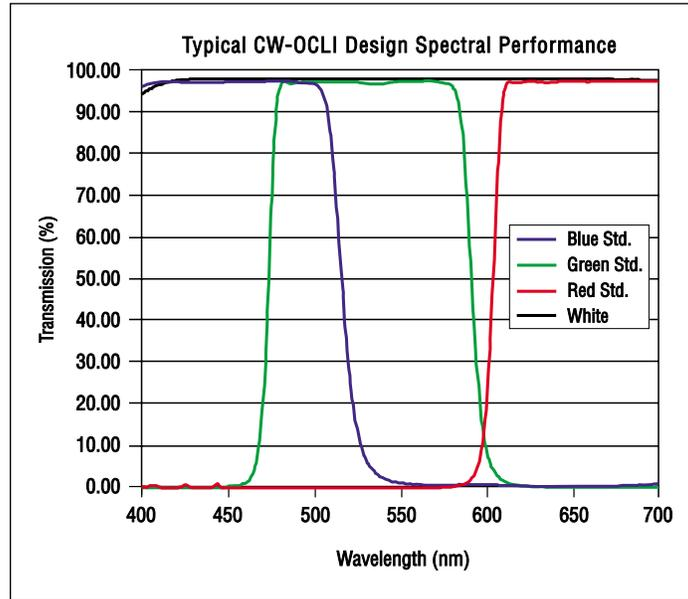

Figure 4.
- Dichroic spectral design: The dichroic spectral design determines the color output of the system. The typical color wheel is a 4-segment color wheel consisting of a red, green, white, and blue segment. Please see Figure 4 for typical color wheel spectral performance. The dichroic spectral performance must typically be kept to a tolerance of approximately $\pm 1\%$, and the spectral stability with respect to temperature variation needs to be approximately 0.1 nm per 100° C.